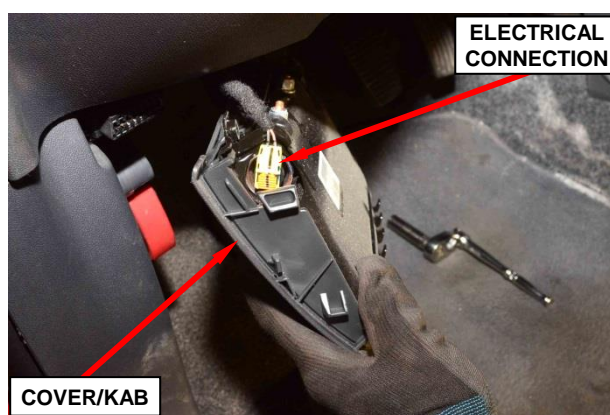

Figure 10 – KAB Electrical Connector
- b. Pull the cover/KAB down and back from the instrument panel far enough to access the KAB electrical connection on the outboard end of the KAB housing (Figure 10).
- c. Depress the KAB inflator electrical connector integral latches on each side of the connector insulator and pull the connector insulator straight out from the KAB to disconnect it (Figure 10).
- a. Position the cover/KAB below the instrument panel in a vertical orientation with the KAB inflator electrical connector receptacle facing upward (Figure 10).
- b. Connect the instrument panel wire harness connector to the KAB inflator electrical connector receptacle by pressing straight in on the connector. The connection will make an audible click noise as the connector insulator integral latches snap into place, indicating the electrical connector is fully engaged in its receptacle (Figure 10).